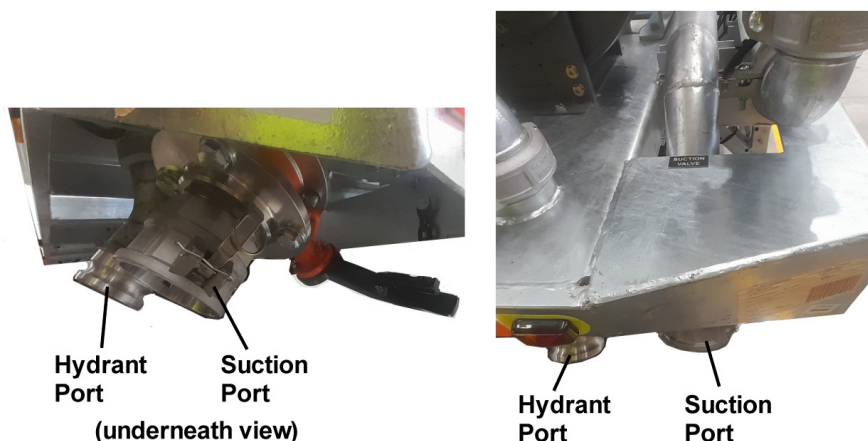

Figure 8 – Hydrant and Suction Ports
1. A hydrant supply hose is located under the Water Truck's tank. Remove the securing plate, withdraw the hose and attach one end to the Water Truck's hydrant port under the rear of the vehicle (refer to Figure 8), the other end to the hydrant.